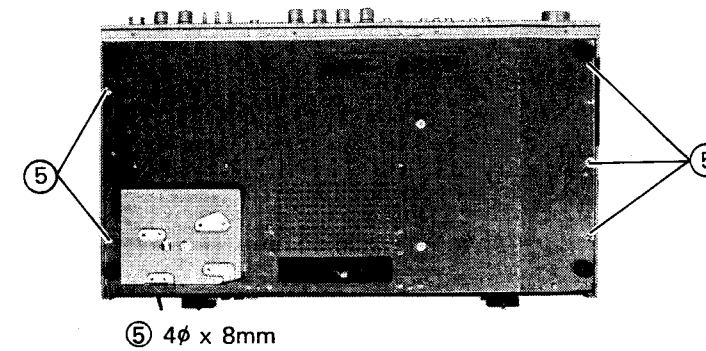

Figure 8.
1. Remove 5 screws ⑤. See figure 8.